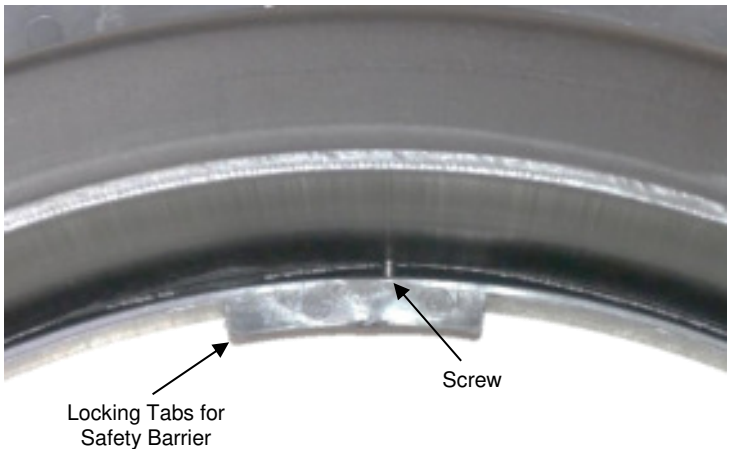
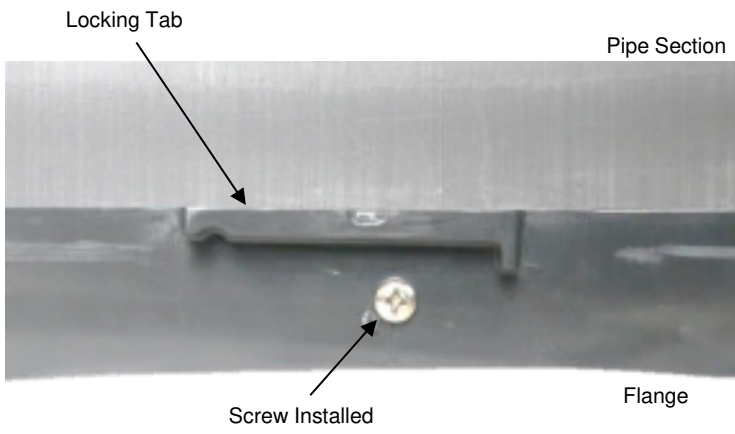
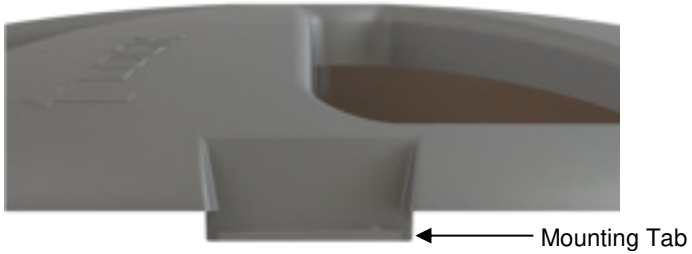
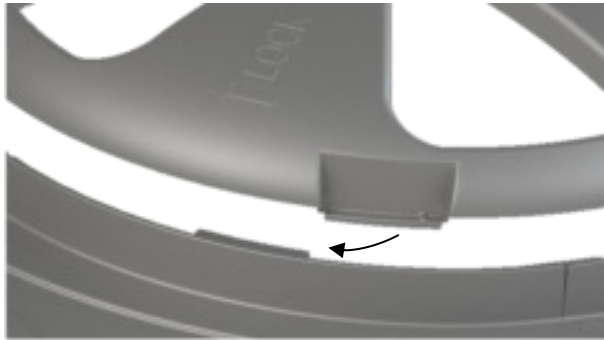

Figure 7: Screw installed (Top down view)
Figure 8: Screw installed (Side view)
Figure 9
Figure 10: Inserting Safety Barrier
- 6.) Install four (4) screws into mounting dimples to attach the adapter flange to the riser pipe. Drive the screws until the head makes contact with the adapter flange & slightly compresses the flange (Fig 7.) & (Fig 8). There should be a visible gap (1/2") between base flange & pipe once installed.
- 7.) *Locate the four mounting tabs on the safety barrier (Fig. 9). Insert the safety barrier into the locking tabs on base flange (Fig 8), (Fig. 9) & (Fig. 10).*